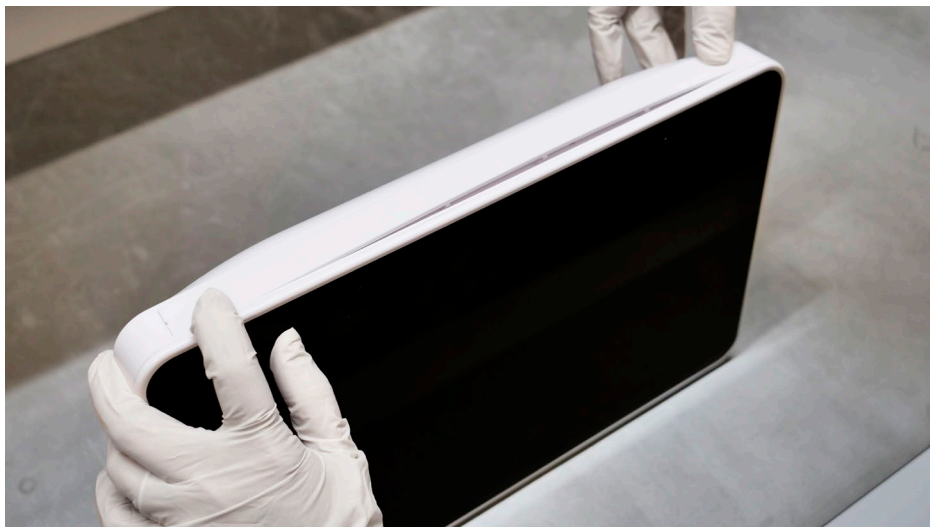

Figure 33 Put on the name plates
f) Click the name plates in place (see Figure 33)
Click down the two ends of the name plate first (see Figure 33). Then click down the rest of the name plate towards the center. The Ambu logo on the name plate must be readable from the front side of the displaying unit. If the name plates are damaged, use the new ones supplied with the spare part kit.